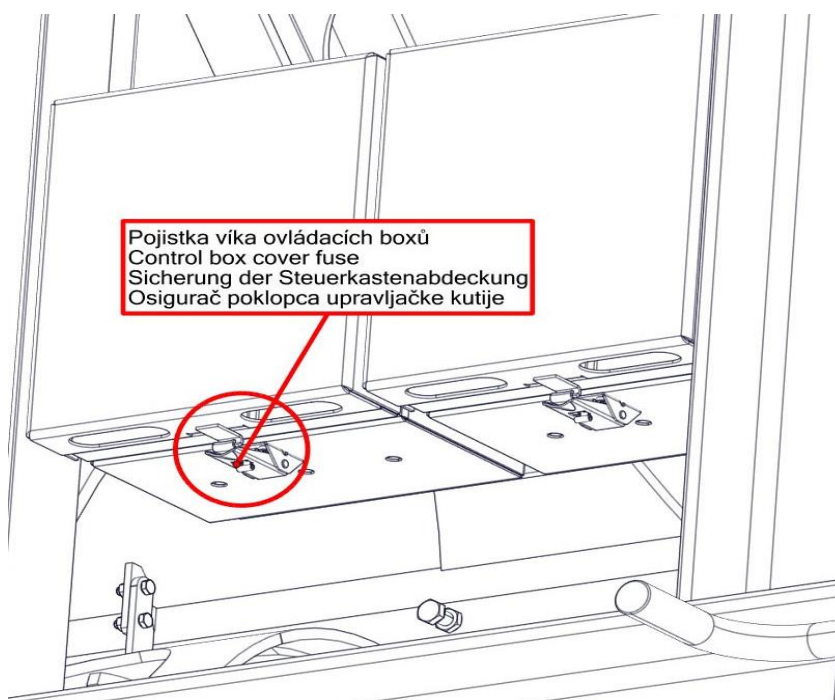

Fig. 30
- All control boxes of the pneumatic system are equipped with a cover – Fig 30